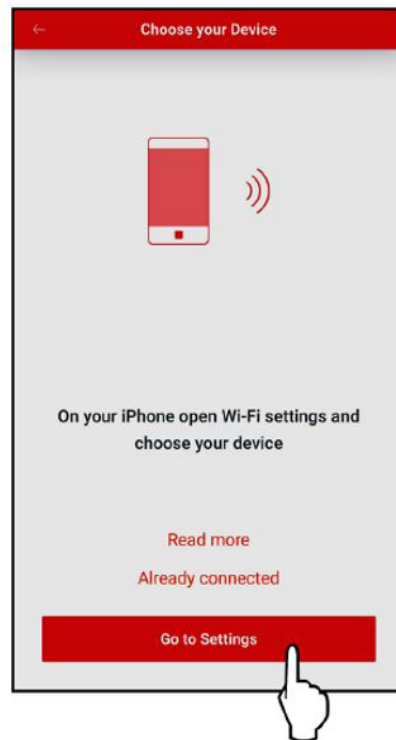

Figure 90. Go to Settings
4. Press the "Go to Settings" button on the "Choose your Device" screen. See **Figure 90**.